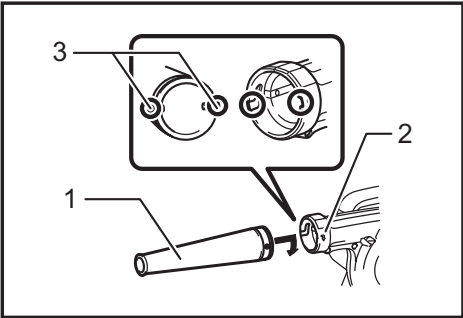

Fig.3
- **Fig.3:** 1. Nozzle 2. Blower outlet 3. Pin